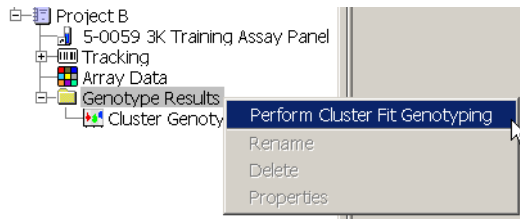

Figure 3.15 Perform Cluster Fit Genotyping
1. Right-click the **Genotype Results** folder for your project and select **Perform Cluster Fit Genotyping** (Figure 3.15).